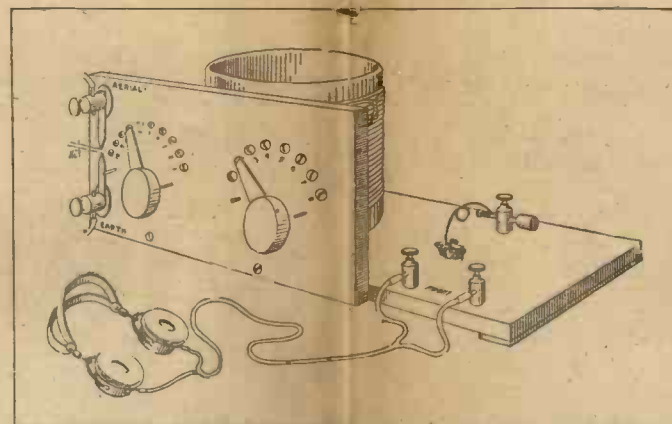

Fig. 4.—View of the Receiver.
**Upright Panel and Base.**—Having completed the tuner to this point, set it aside and construct the upright panel shown in Fig. 4. This panel may be a piece of wood approximately  $\frac{1}{4}$  in. thick. The position of the several holes for the terminals, switch arms and switch contacts may first be laid out and drilled. The aerial and earth terminals may be ordinary  $\frac{1}{8}$ -in. brass screws of sufficient length and supplied with three nuts and two washers. The first nut binds the bolt to the panel, the second nut holds one of the short pieces of stiff wire, while the third nut holds the aerial or earth wire, as the case may be. The switch arm with knob (shown at V,